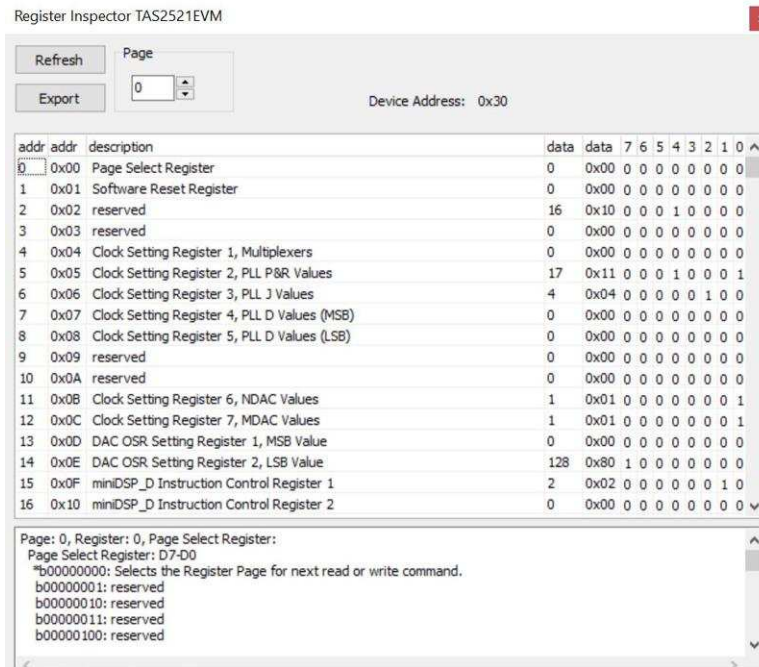

图 16. Register Inspector Box
2. Click on *View*→ *Register Inspector...* This will bring up the *Register Inspector* as shown in 图 16 .
2. Click on *View*→ *Register Inspector...* This will bring up the *Register Inspector* as shown in 图 16.